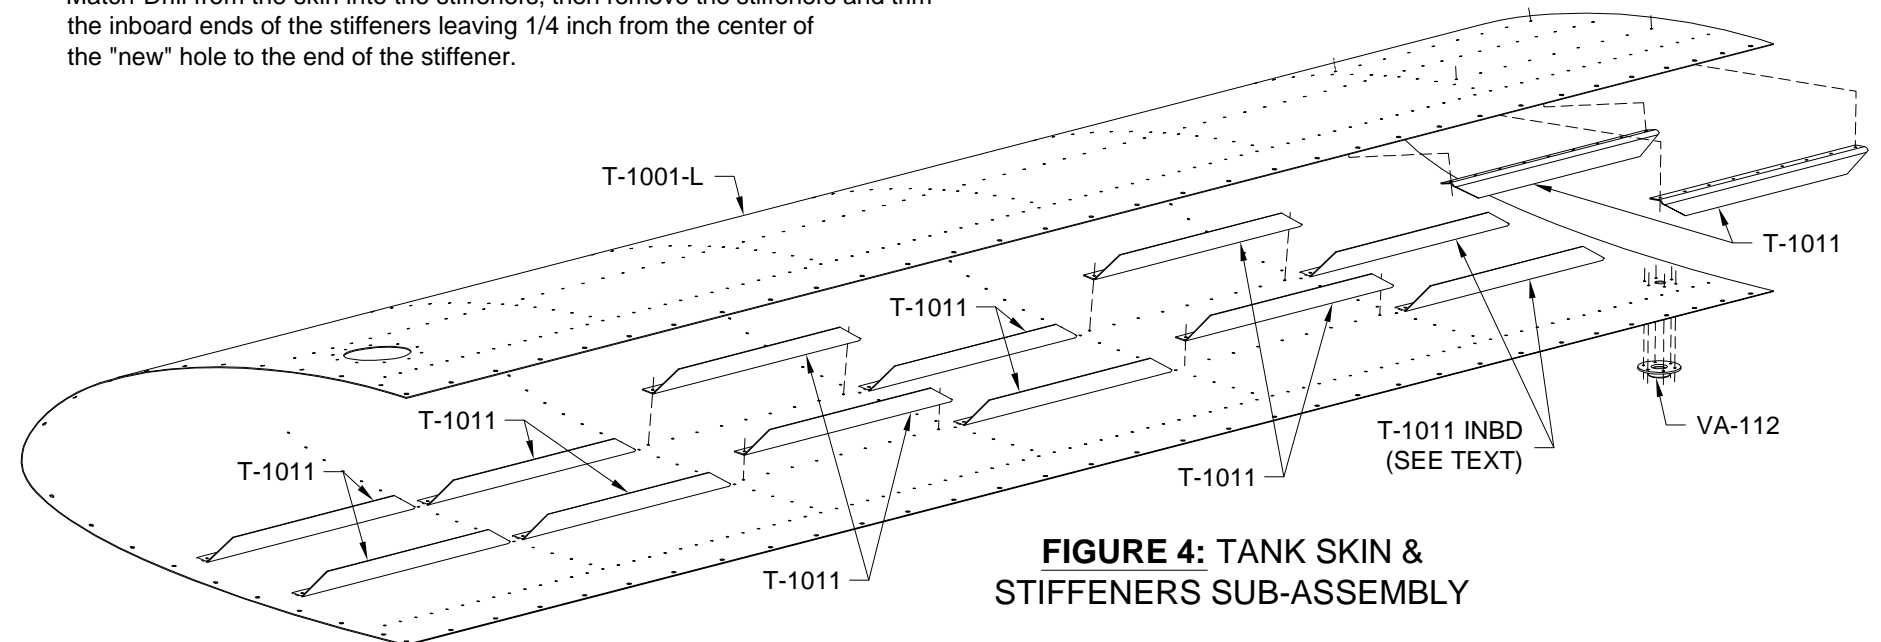

FIGURE 4: TANK SKIN & STIFFENERS SUB-ASSEMBLY
Step 5: Place the T-1001-L Tank Skin in the Leading Edge Assembly cradle. Remove the vinyl film from the inside surface of the tank skin and deburr edges. Cleco all the T-1011 Tank Stiffeners and the VA-112 Drain Flange to the tank skin as shown in Figure 4.
Step 8: Rivet the T-1011 Stiffeners and VA-112 Drain Flange to the T-1001-L Tank Skin as shown on Page 18-2, Figure 4. See Figure 3 for rivet call-out.